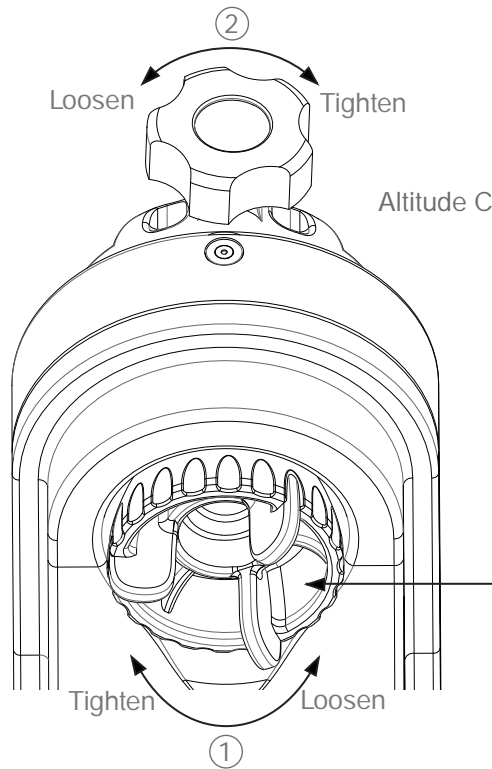

Fig. 1.3a
1. Loosen the altitude clutch wheel and rotate the saddle until the dovetail groove is horizontal, then tighten the altitude clutch wheel again (Fig 1.3a).